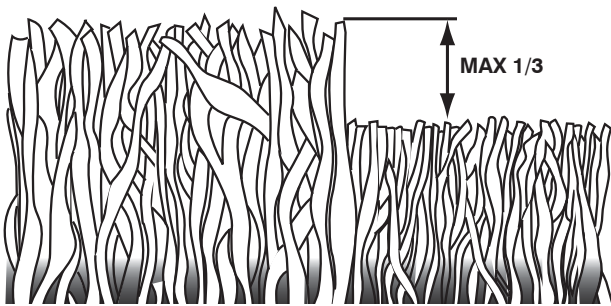

Figure 16
1. To stop engine, release operator presence control bar (Figure 16).
- For best results, adjust the lawn mower cutting height so that the lawn mower cuts off only the top one-third of the grass blades (Figure 16). If the lawn is overgrown it will be necessary to raise the height of cut to reduce pushing effort and to keep from overloading the engine and leaving clumps of mulched grass. For extremely heavy mulching, reduce your width of cut by overlapping previously cut path and mow slowly.